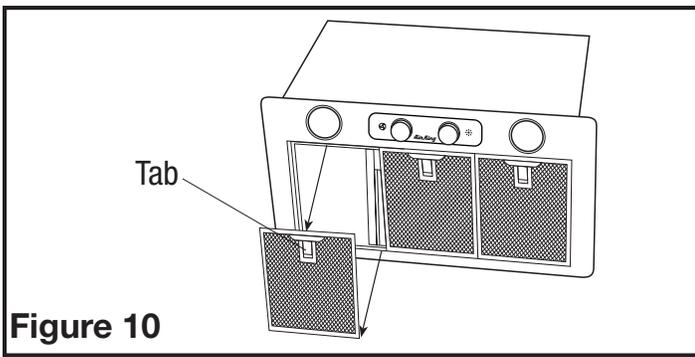

Figure 10
- To remove the filters, pull down on the handle tab until the filter releases from the unit. To reinstall, slide tab at rear of filter into slot in the unit. While holding in handle of filter, lift filter into place and release handle. The filter should snap securely into place (Figure 10).